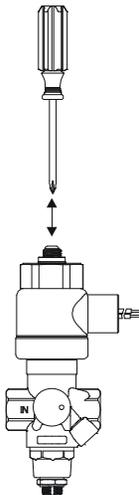

Figure 2: Manual Override Operation
- b. If power is lost to the solenoid, wait 15 minutes. Use manual override button (optional) on some BE58 models by depressing the reset (see Figure 2) if there is no power to the solenoid. Releasing pressure on the reset allows the button to return to its original position and internally open the valve, allowing gas to flow to the heater.